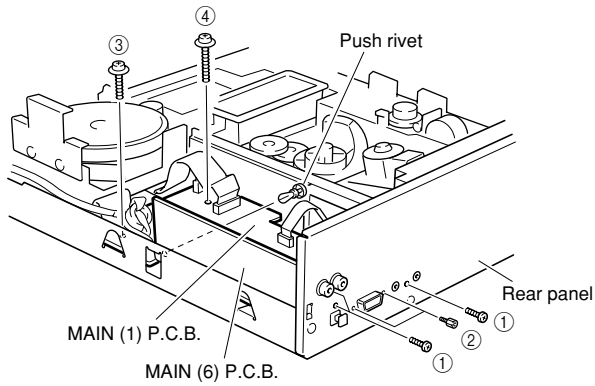

Fig. 1
- c. Remove 3 screws (①) and 2 jack screws (②). (Fig. 1)